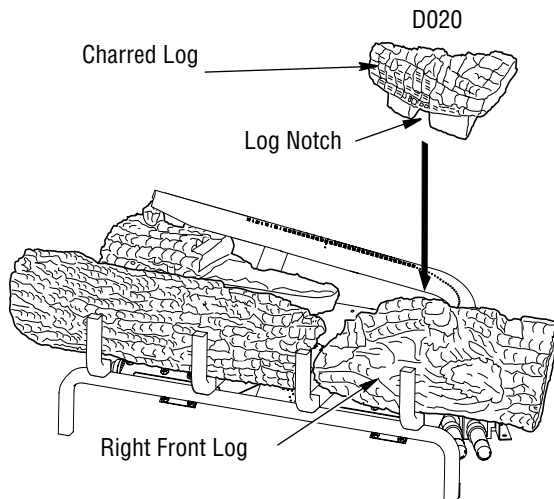

Figure 21 - Installing Charred Log
4. Find the charred log (D-020). See **Figures 21, 21A, and 21B**. The log has a slot in the bottom that fits over the square grate and rests against the burner tube as shown in **Figure 21**. Place this log on the base as shown in figures.